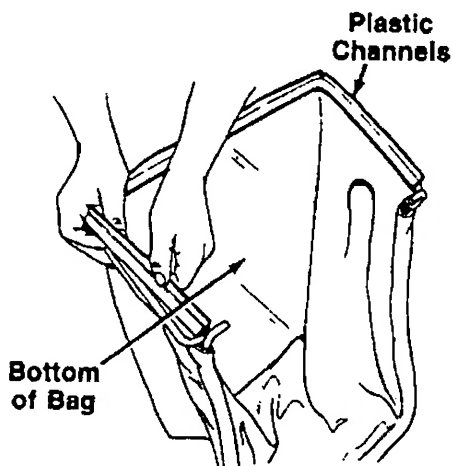

FIGURE 17.
3. Secure front of bag to front frame by slipping plastic channels on sides and bottom of bag over frame. See figure 17.